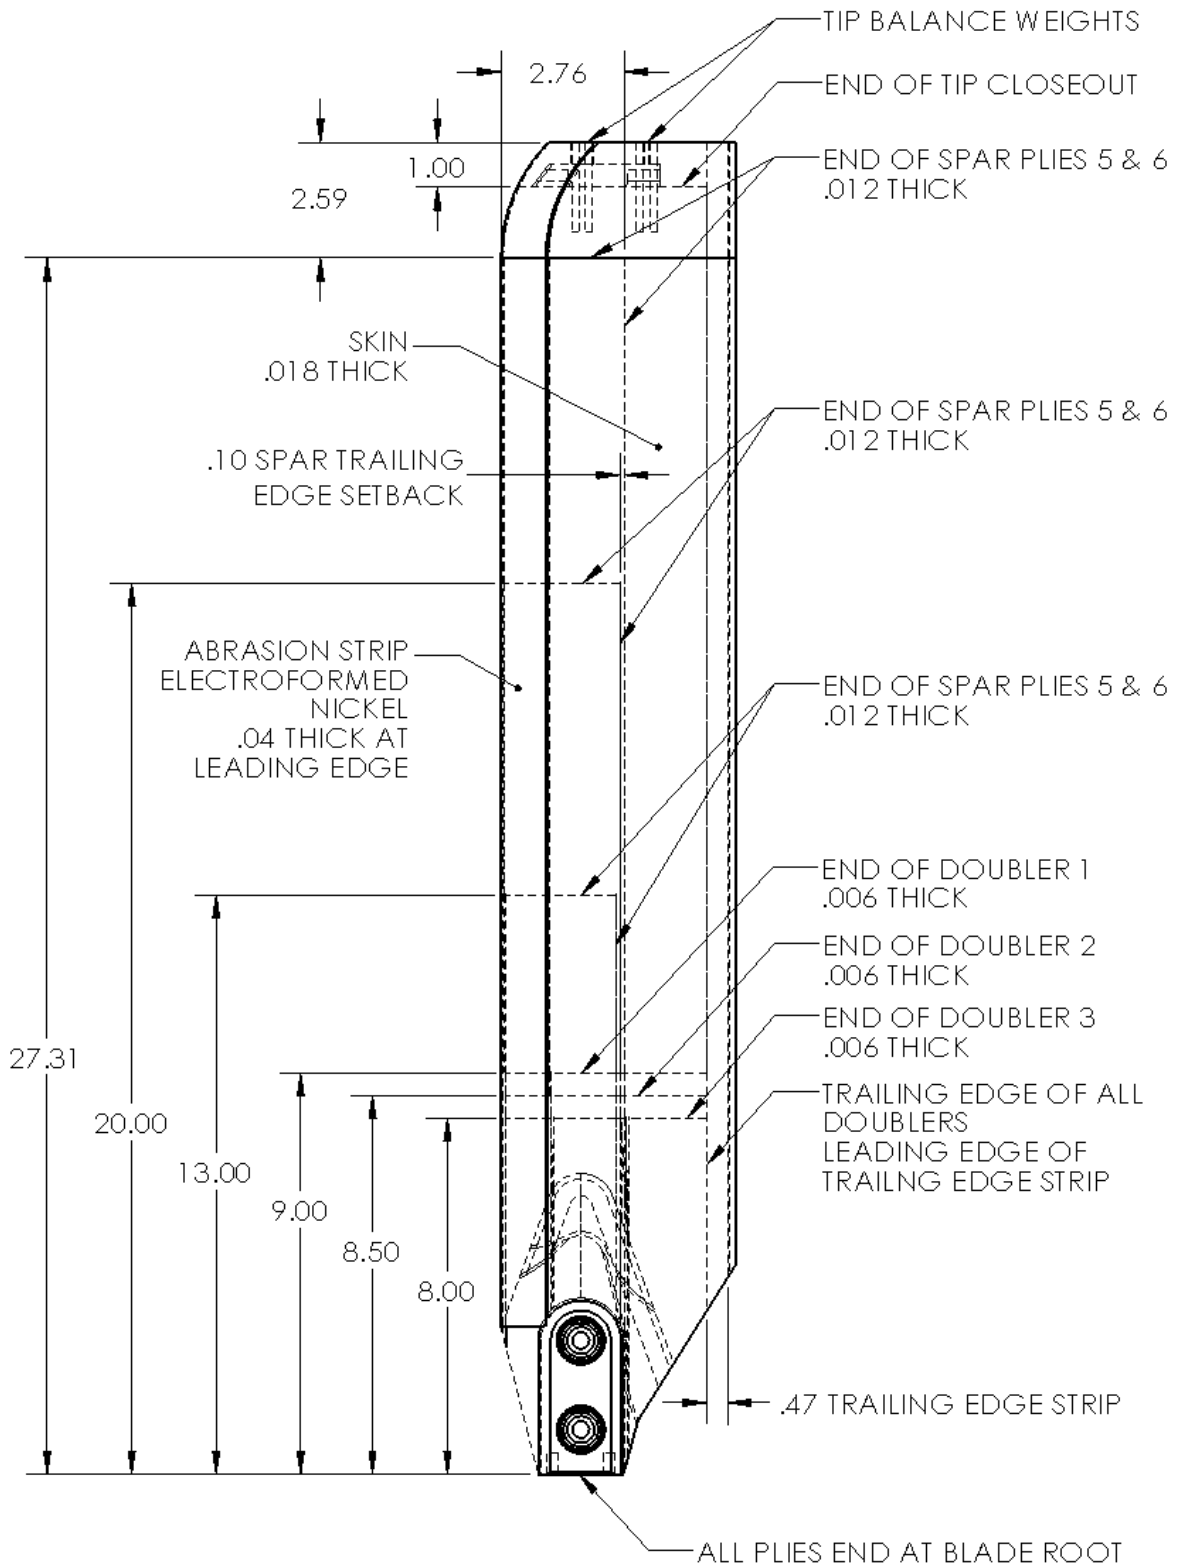

Figure 5.3
- d. Tap test an area 1.0 inch either side of the dent for voids. See Figure 5.3 for locations of ply drop-offs. A tonal change may occur at these drop-offs when tapping across them depending on tapping force. If a dent is on or near a ply drop-off, it may be required to tap an undamaged blade in the same area to help distinguish a tonal change from a void.
Impact damage may progress from little evidence of external damage to puncture with surrounding voids depending on impact force. In all cases of suspected skin damage, a tap test is required to determine extent of the damage. Figure 5.3 shows the blade internal components including locations of ply drop-offs. Take note of the various thicknesses and ply drop-off locations. A tonal change may occur at these drop-offs when tapping across them depending on tapping force. If suspected damage is on or near a ply drop-off, it may be required to tap an undamaged blade in the same area to help distinguish a tonal change from a void.